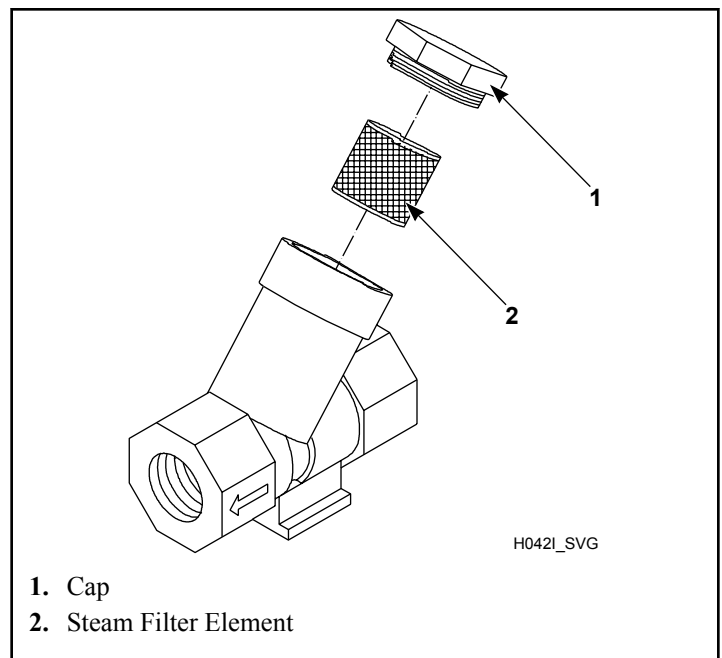

Figure 44
4. Clean customer-supplied steam filter (if applicable). Refer to *Figure 44*.